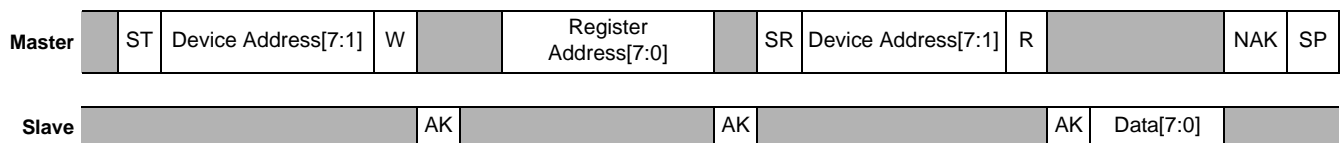

Figure 10. Single-Byte Read timing (I²C)
- The transmission of an 8-bit command begins on the falling edge of SCL. After the eight clock cycles are used to send the command, note that *the data returned* is sent with the MSB first after the data is received. Figure 10 shows the timing diagram for the accelerometer 8-bit I²C read operation.
- The Master (or MCU) transmits a start condition (ST) to the MMA8653FC [slave address (0x1D), with the R/W bit set to "0" for a write], and the MMA8653FC sends an acknowledgement.
- The Master (or MCU) transmits a repeated start condition (SR) and then addresses the MMA8653FC (0x1D), with the R/W bit set to "1" for a read from the previously selected register.